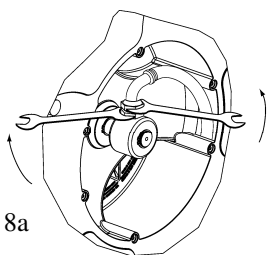
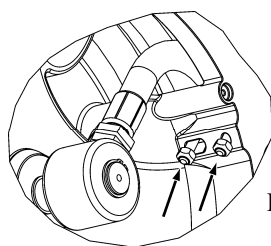

Fig. 8a
Fig. 8b
- Fix the hose to the swivel as indicated in figure 8a and fix the U bolt as shown in figure 8b.
- Disconnect the hose as seen (Fig. 8a). Release the hose from the disk by removing the clamp (Fig. 8b).
- Ta loss slangen från sviveln enligt (Fig. 8a) och ta bort klammern (Fig. 8b).